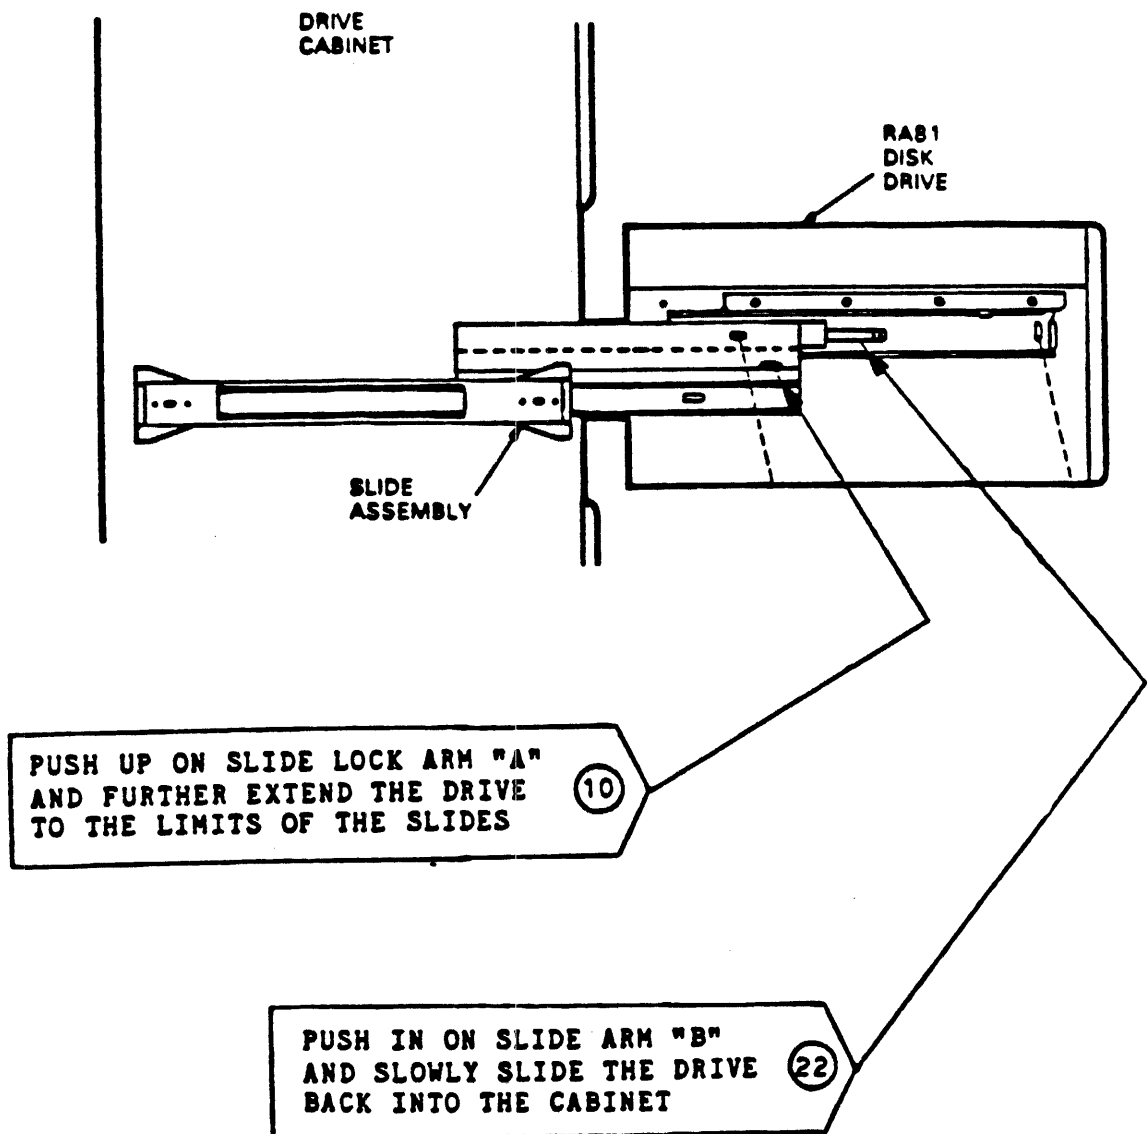

Figure 3
23. Push in on Slide Arm "B" and slowly slide the drive back into the cabinet. (Figure 3)